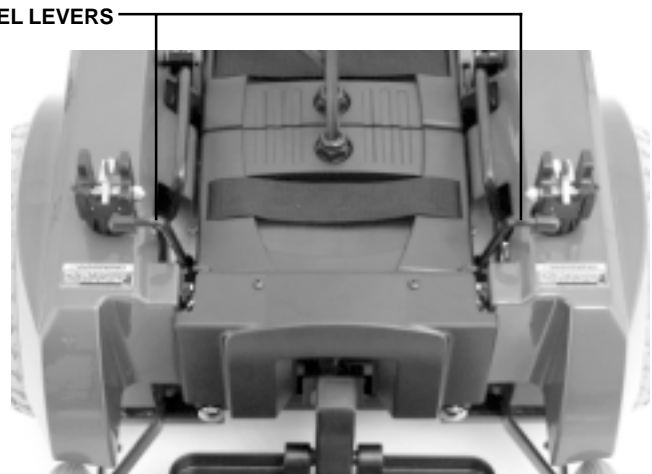

Figure 6. Drive Motors Disengaged (Freewheel Mode)
3. Turn the levers outward to disengage the drive motors (freewheel mode). See figure 6.